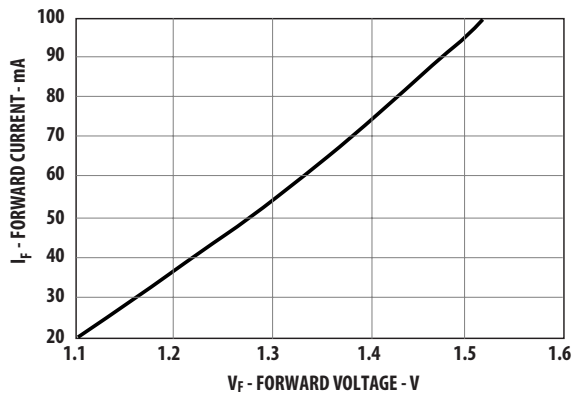

Figure 3. Typical forward voltage and current characteristics
- Optical rise and fall times are measured from 10% to 90% with 62.5/125 μm fiber. LED response time with recommended test circuit (Figure 3) at 25 MHz, 50% duty cycle.